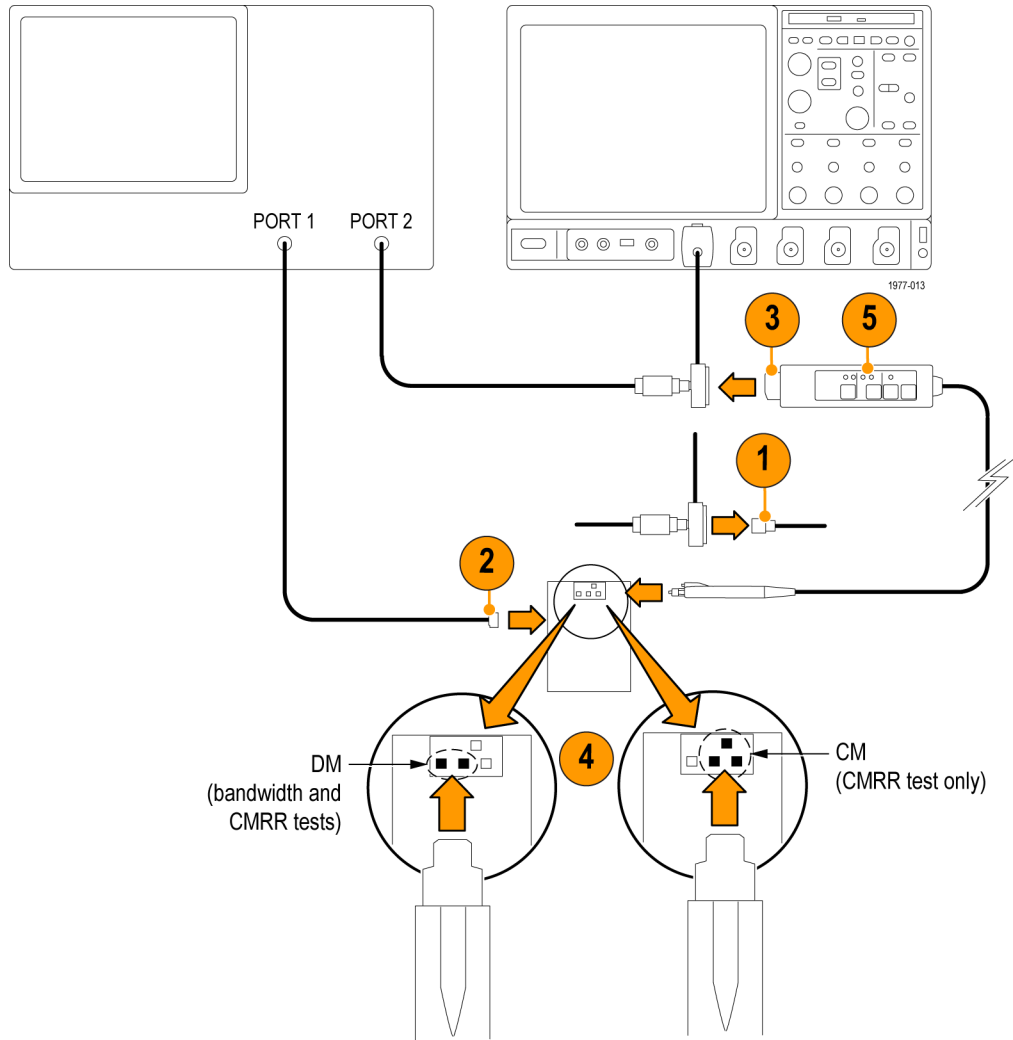

Figure 16: Setup for the analog bandwidth and CMRR tests
4. Connect the probe head to the DM pins on the Probe Tip to BNC adapter. (See Figure 16.)